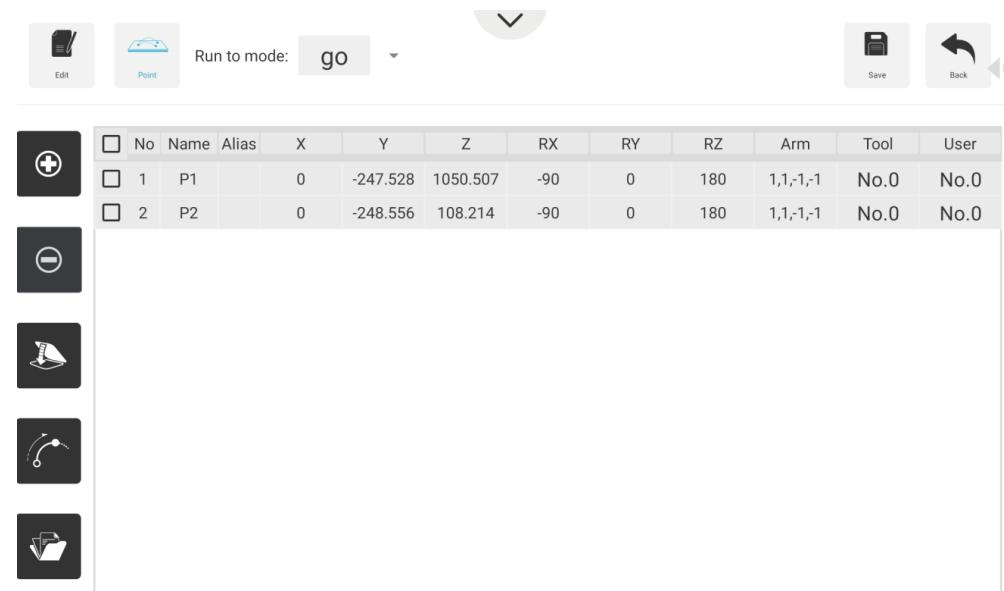

Figure 6.9 Save teaching points
**Step 3** Jog robot to a point and click **⊕** to add the point **P1** on the **Point** page. Jog robot to another point and click **⊕** to add the point **P2**. The saved points are shown in Figure 6.9.